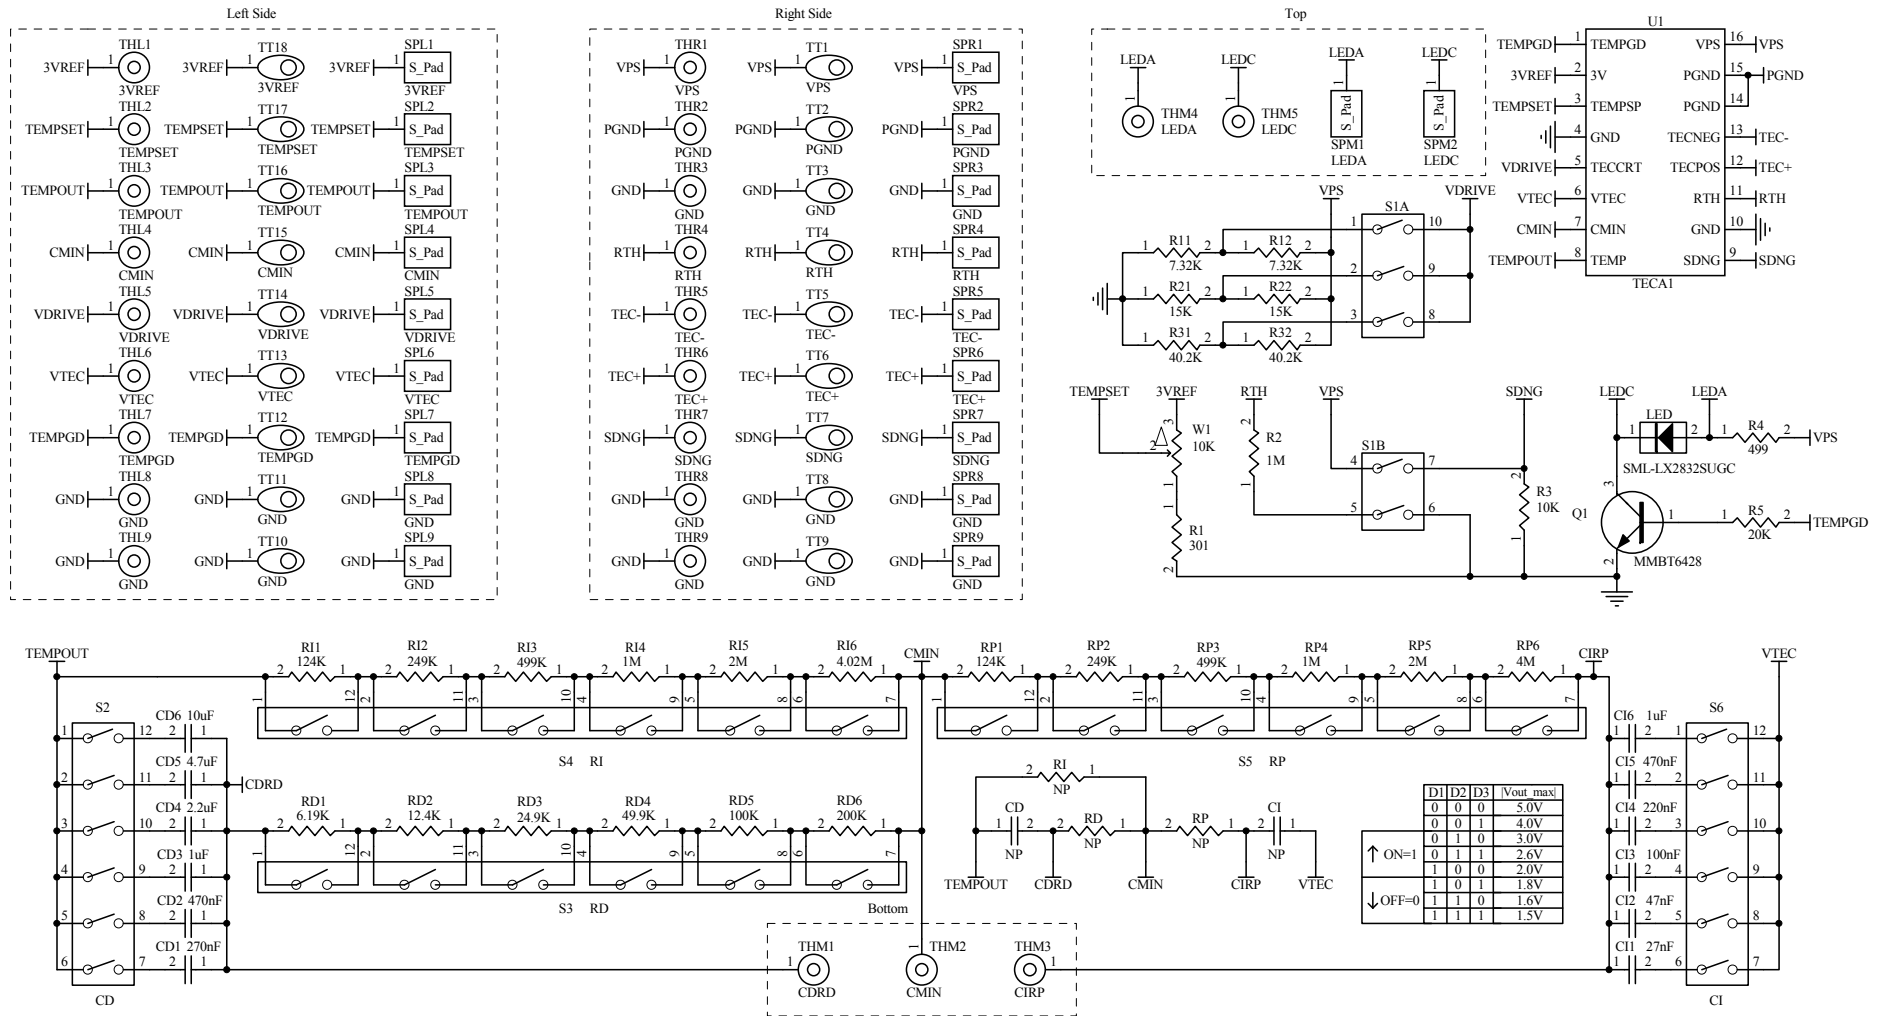

Figure 7 Schematic of TEC Controller TECA1-5V-5V-D Evaluation Board TECEV104
The schematic is shown in Figure 7 below.
f. To control the TEC voltage directly by using a DAC, connect VTEC to the output of the DAC and use this formula: TEC voltage = $2.5V - VTEC (V)$.
h. The evaluation schematic is given in Figure 7.